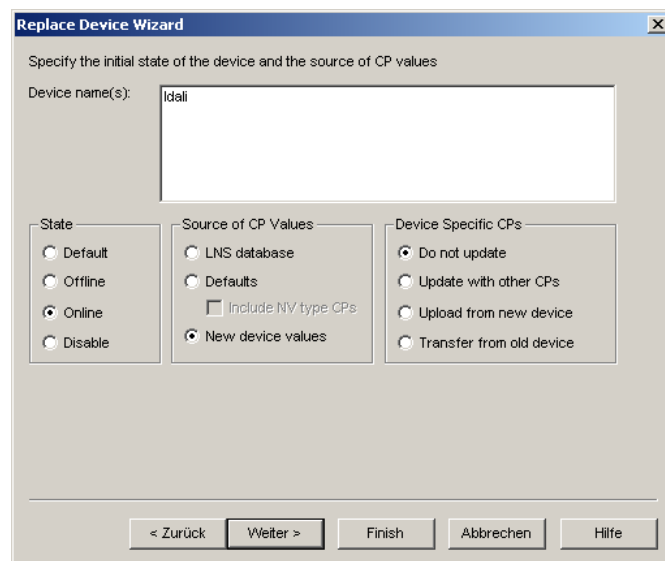

Figure 93: Select online state and source of CP values.
5. Then select **Online** for State and **New Device Values** for “Source of CP Values” as shown in Figure 93 and click **Next**.